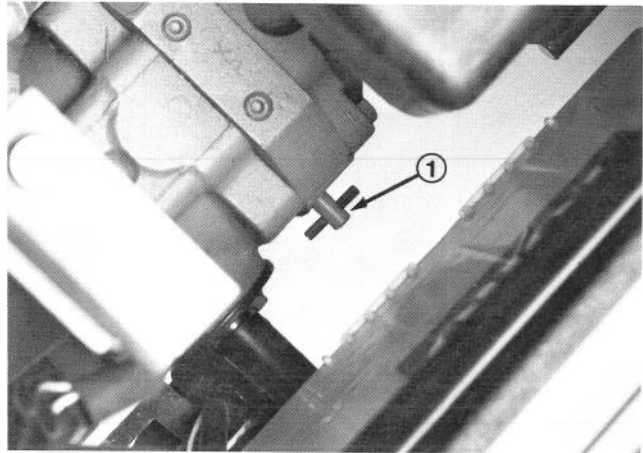

Figure 13
1. Reach in under seat and rotate by-pass valve (Fig. 13) counterclockwise 1/2 to 1 turn. Opening the valve opens an internal passage in the pump, thereby by-passing transmission oil. Because fluid is by-passed, the machine can be pushed without damaging the transmission.